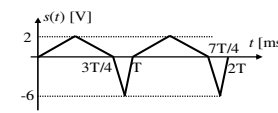

Figure 8
14. Compute the DC component of the signal in Fig. 8.